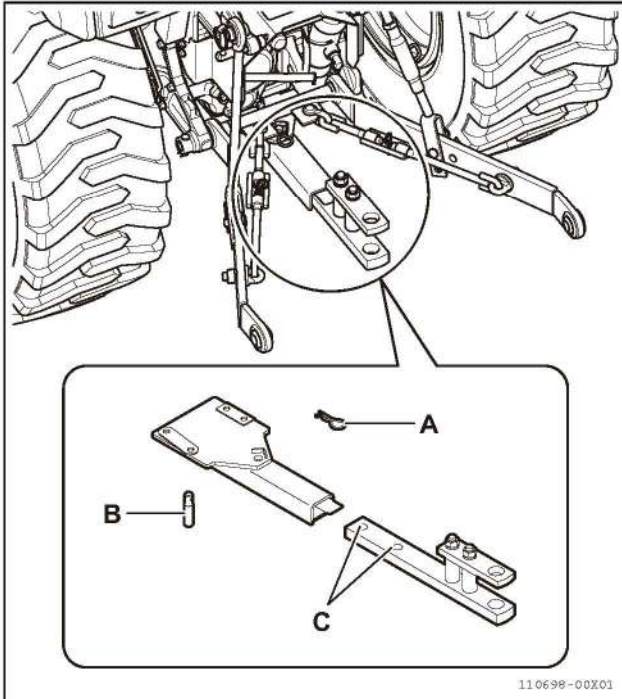

Fig 10-10
1. Remove the hairpin clip (Fig 10-10, A).
2. Remove the pin (Fig 10-10, B).
3. Align the hole (Fig 10-10, C) of the drawbar with the drawbar bracket to set the drawbar length.